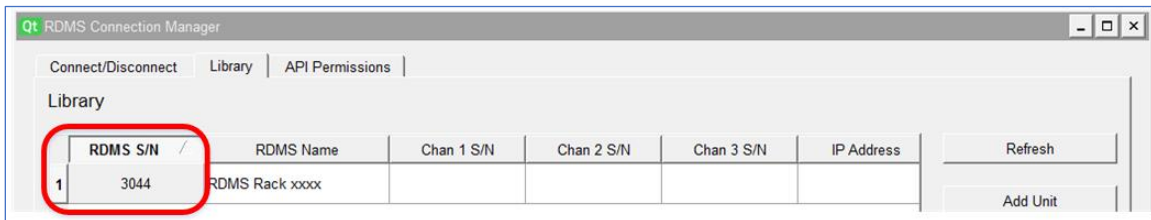

Figure 13: Library Tab, New Serial Number Typed in Library List
2. Type the serial number of the RDMS unit in the first column, RDMS S/N, as shown in Figure 13. The digits must match the receiver exactly. To check this, go to System Settings > System Info on the receiver. The Serial Number and IP address display on the screen.